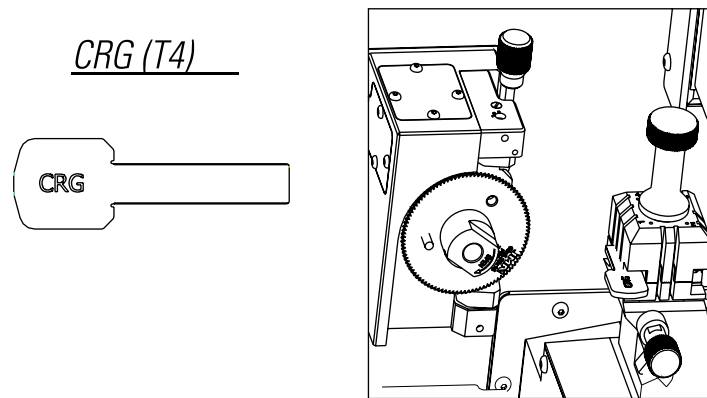
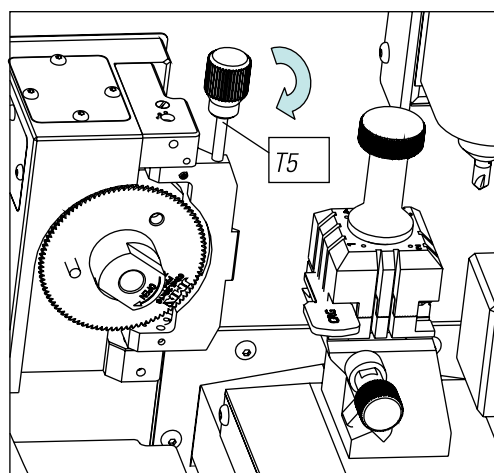

FIG. 21
FIG. 22
- 1) Place the CRG (T4) in the clamp MP1 on side 1.(Fig.21)
- 1) Place the CRG (T4) in the clamp MP1 on side 1.(Fig.21) (Fig. 22)